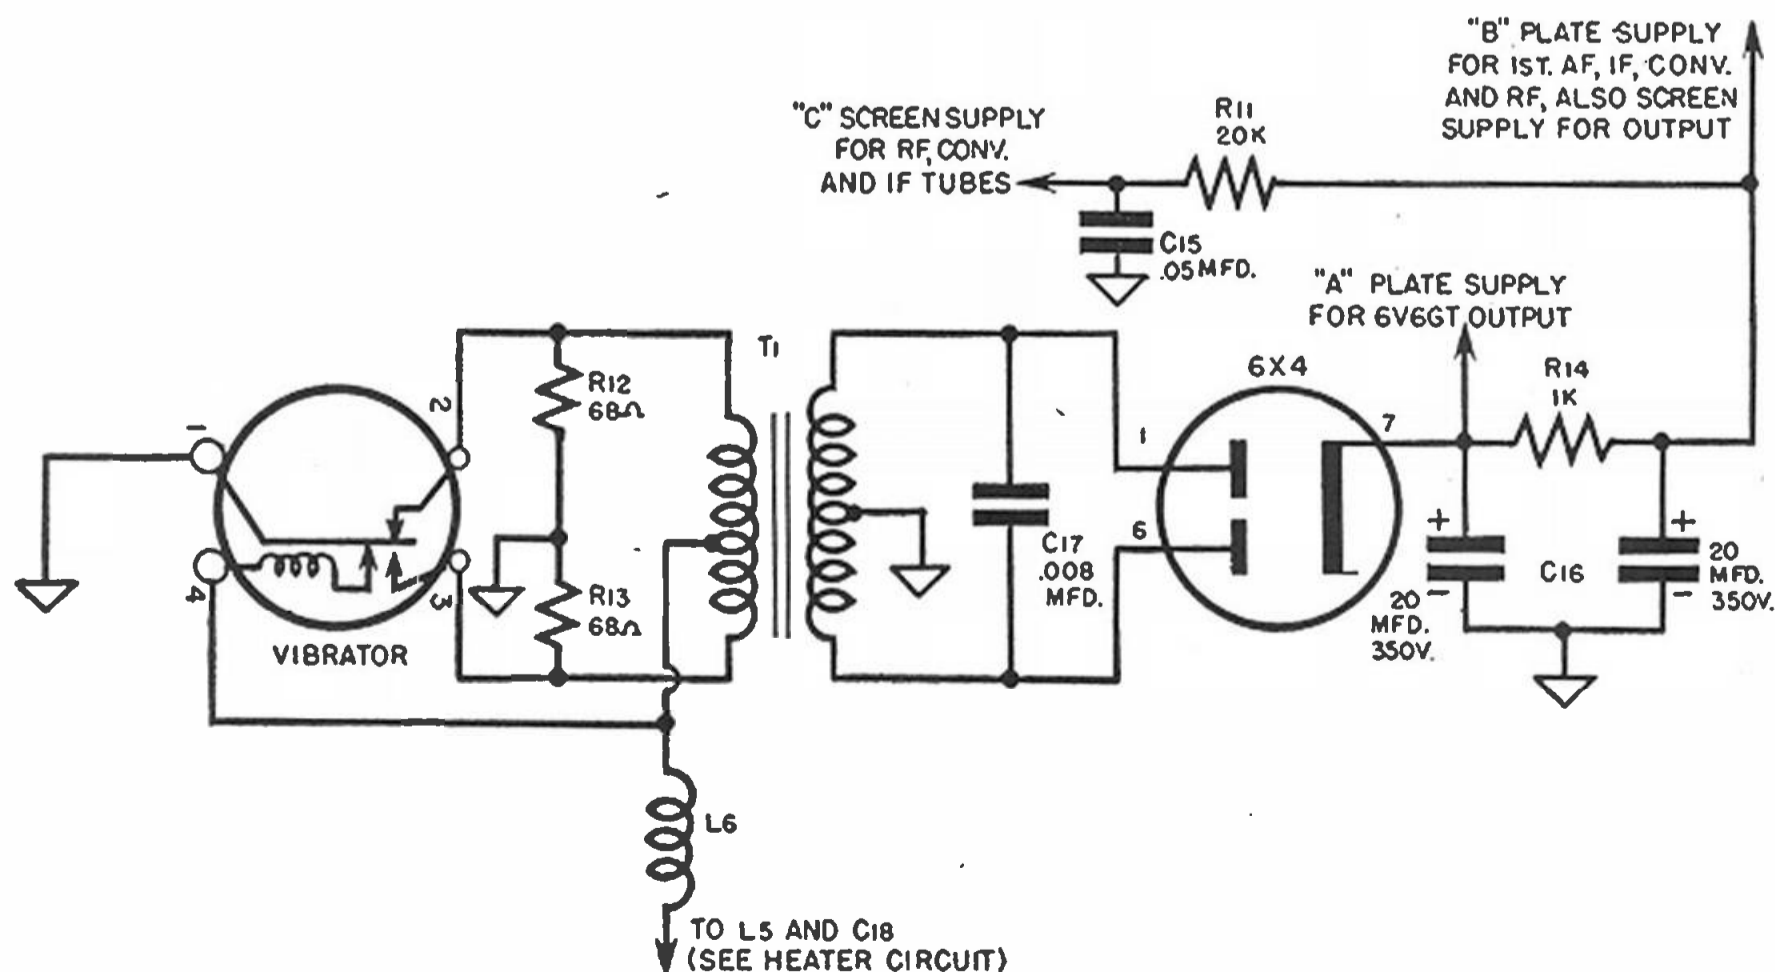

Fig. 8-25. Auto radio power supply circuit.
b) *Power Supply Circuit.* See Figure 8-25.